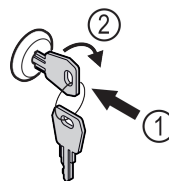

Fig. 201
- ▶ Insert the key. Fig. 201 (1)
- ▶ Turn the key clockwise by 90°. Fig. 201 (2)